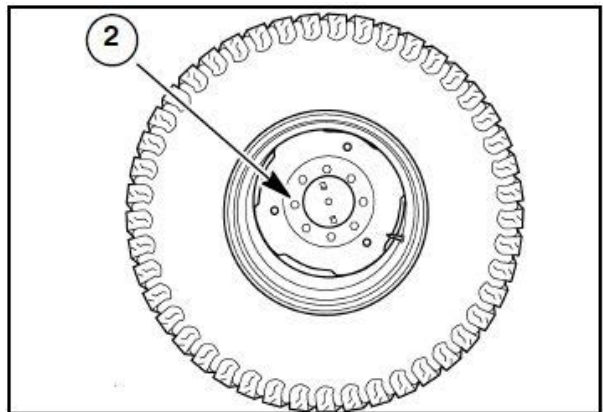

Figure 3-45
Check wheel bolt (2) in Figure 3-45, torque daily until torque stabilizes.